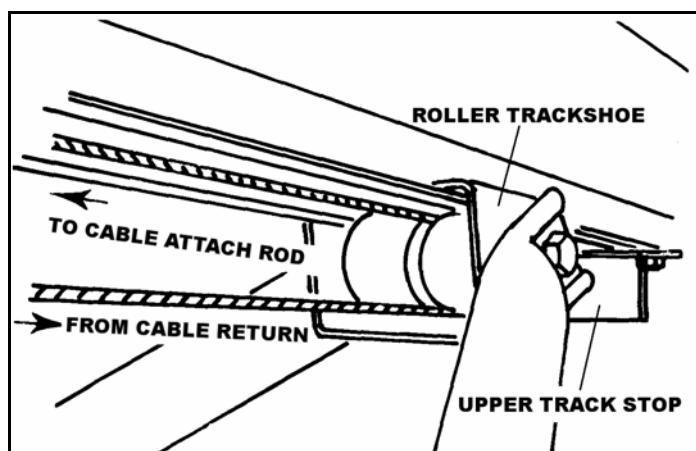

Figure 3.23
3. Loop cable around roller in trackshoe, feeding it in bottom of roller and out top, as shown in Figure 3.23.